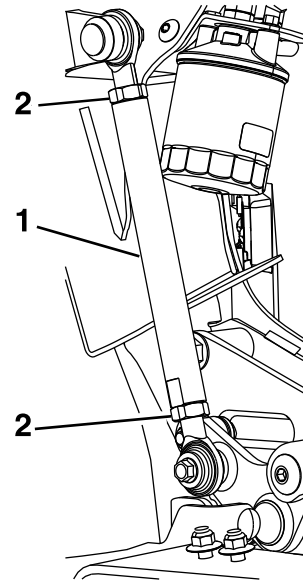

Figure 34
15. Loosen both of the jam nuts on the lift rod and rotate the rod to raise or lower the deck. Tighten the jam nuts when desired position is achieved (Figure 34).